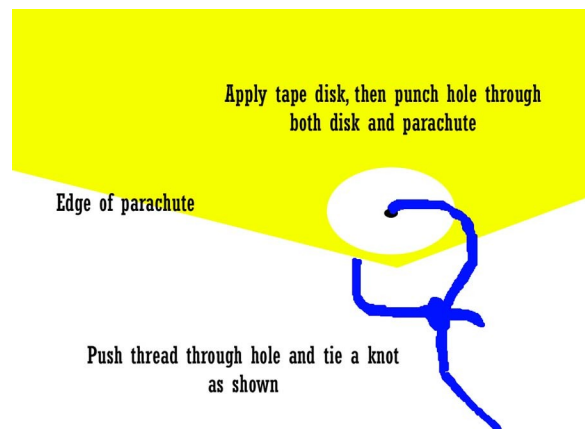

Figure 7
- Step 15** Assemble the parachute according to the SEMROC instructions, with the modification shown in Figure 7. Attach the shroud lines to the remaining snap swivel link and secure the knot with thinned glue. Allow to dry. Do not attach the